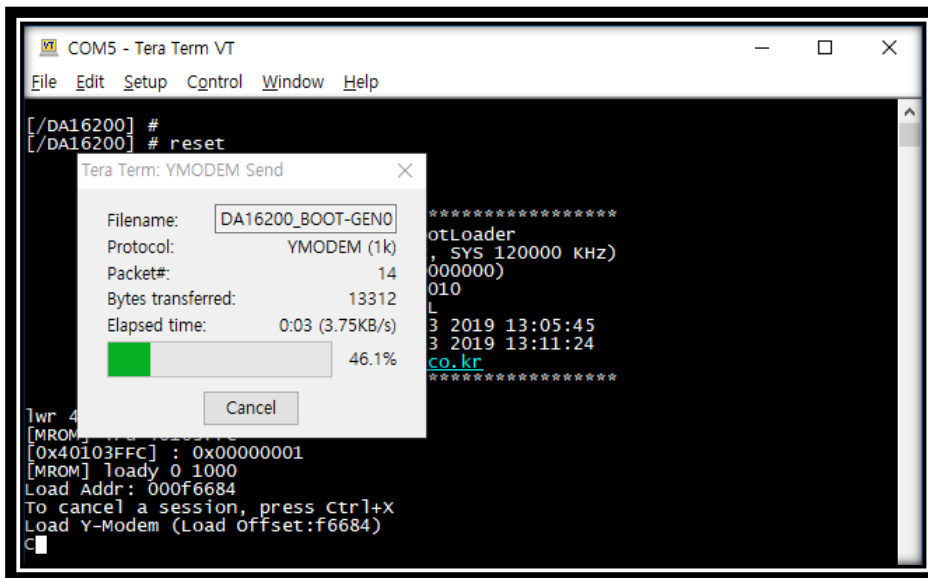

Figure 6. Programming FBOOT image
3. After opening the macro file, the FBOOT firmware image is programmed as shown in Figure 6.